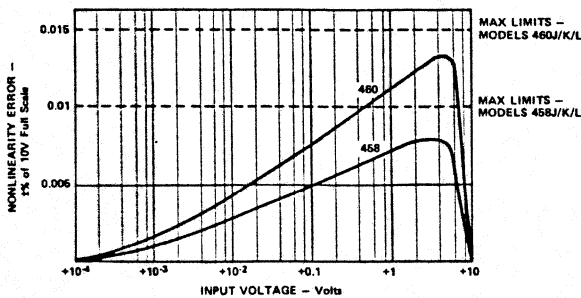

Figure 7. Nonlinearity Error Versus Input Voltage
**Nonlinearity:** Nonlinearity error is specified as a % of 10V full scale input and is guaranteed over the 0.1mV to 11V operating signal range;  $\pm 0.01\%$  max, models 458J/K/L,  $\pm 0.015\%$  max, models 460J/K/L. Typical nonlinearity performance is illustrated in Figure 7.